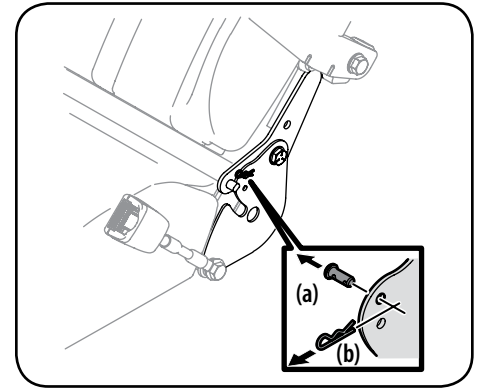

Figure 2-9
5. Remove the clevis pin (a) and cotter pin (b) securing the recliner bearing plate in the seat back position. See Figure 2-9.